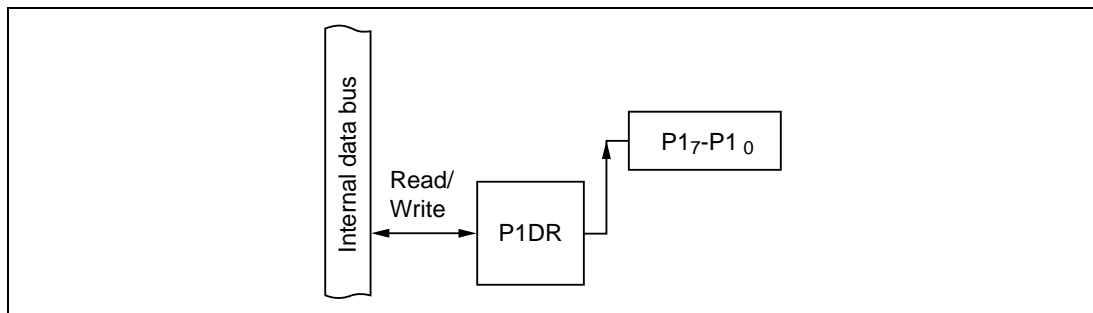

Figure 10-7 Output Port (Mode 7)
(3) Output Port (Mode 7): Figure 10-7 shows a block diagram illustrating the general-purpose output function. Table 10-5 indicates register read/write data. The value written in the port 1 data register (P1DR) is output at the pin. When read, P1DR returns the value written in P1DR.